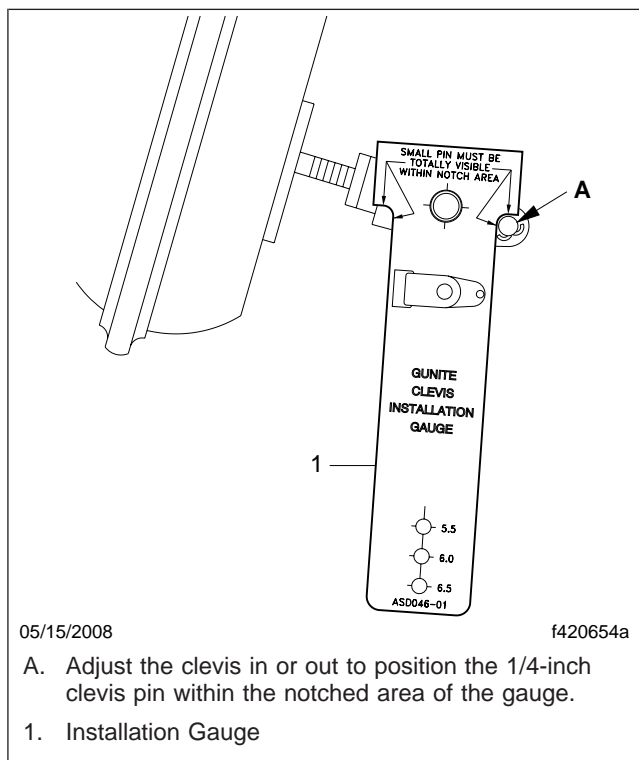

Fig. 3, Checking the Clevis Adjustment
5. If the pushrod has a threaded clevis, use the gauge supplied with the new slack adjuster to check the adjustment of the clevis, as follows. See Fig. 3.